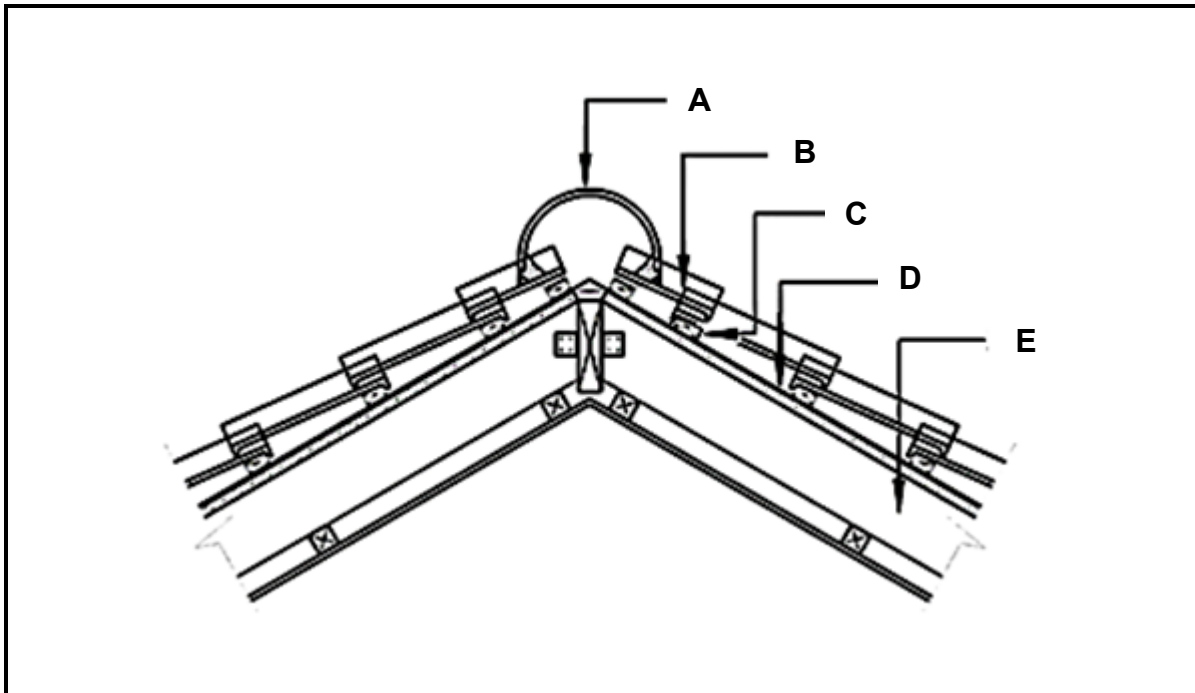

FIGURE 3.3
- 3.3 Answer the following questions with regard to the roof truss construction in FIGURE 3.3.